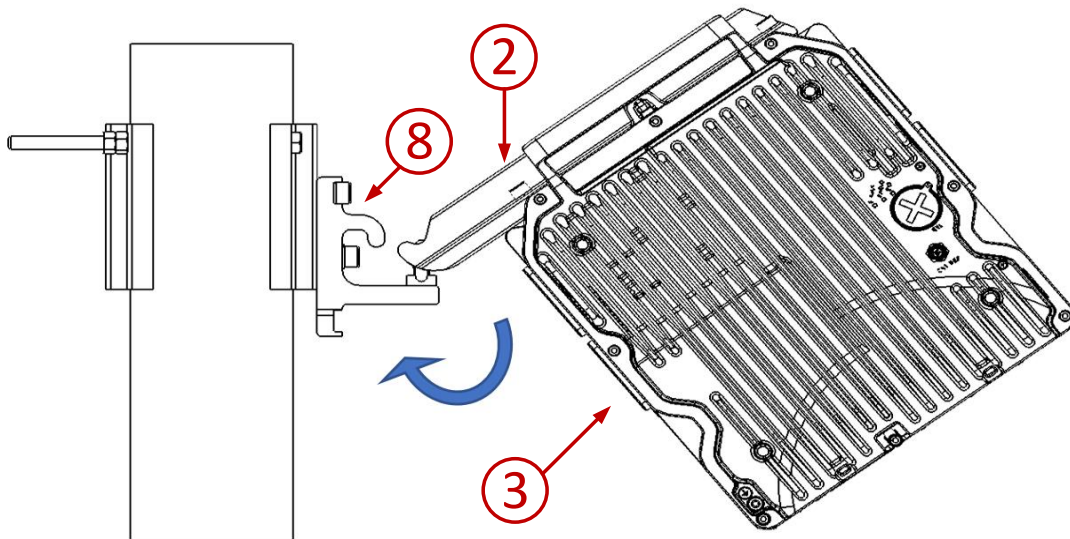
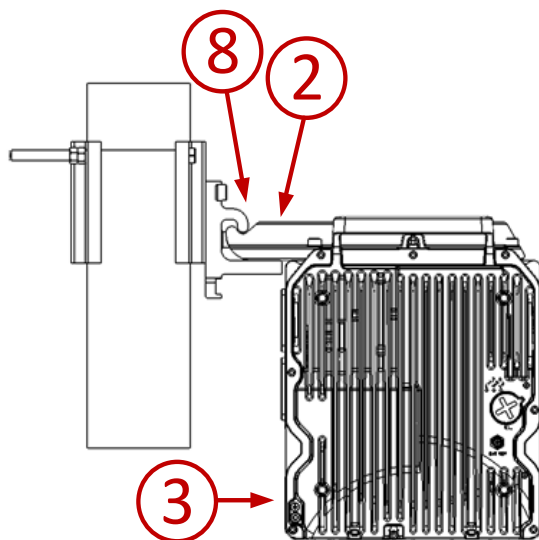

Figure 40: Angling the OCU Rail Underneath the Nose of the Branching Pole Profile
Figure 41: Final Position of OCU-Radio Locked into Branching Pole Profile
Once the OCU and radio unit have been connected, mount the complete OCU-radio unit to the Branching Pole Profile, as shown in *Figure 40* and *Figure 41*.
- 1 Angle the nose of the OCU Rail so as to hook underneath the nose of the Branching Pole Profile (*Figure 40*).
- 2 Level the OCU-radio unit so that the nose of the OCU Rail is locked underneath and inside of the nose of the Branching Pole Profile (Figure 41).